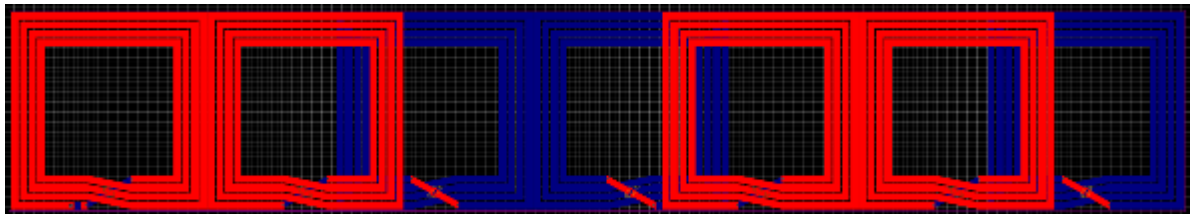

FIGURE 6
6. After designing a rectangular coil with Sonnet suites professional 17.56 program as show in Fig.6, the coil was exported to EasyEDA program for further processing. In EasyEDA, the coil was covered with a solder mask by setting a solid region to cover all the coil. In addition, the coil was divided into 7 cells, with coil cell #1, #2, #5, and #6 placed on the top layer and coil cell #3, #4, and #7 placed on the bottom layer. This was achieved by utilizing the layer setting functions in EasyEDA.